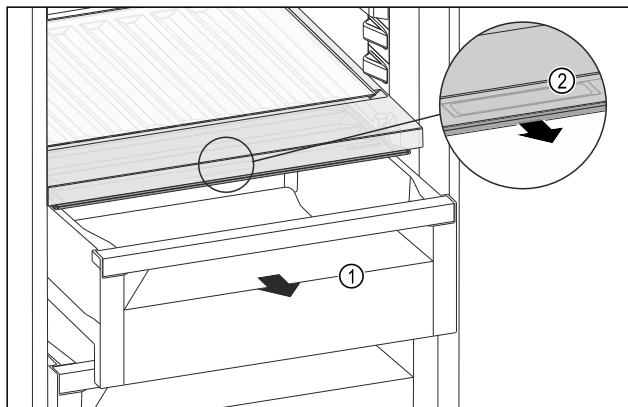

Fig. 147
- Pull out the drawer Fig. 147 (1).
- Grip the handle recess Fig. 147 (2) on the lid while pulling the lid forward at the same time.